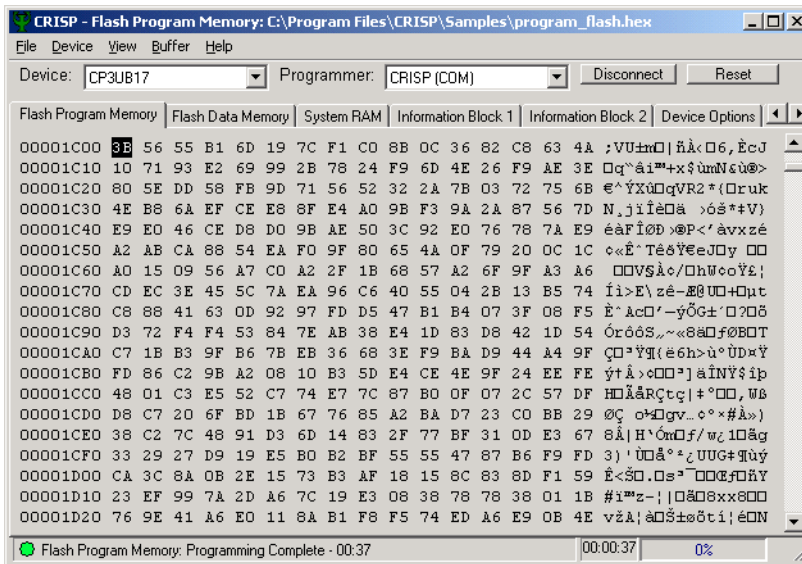

Figure 5-11. Status Bar after a Successful Flash Program
3. **Programming Complete.** If the download was successful, the status bar's circle should have returned to its green color and display the message "Programming Complete", as shown in Figure 5-11.